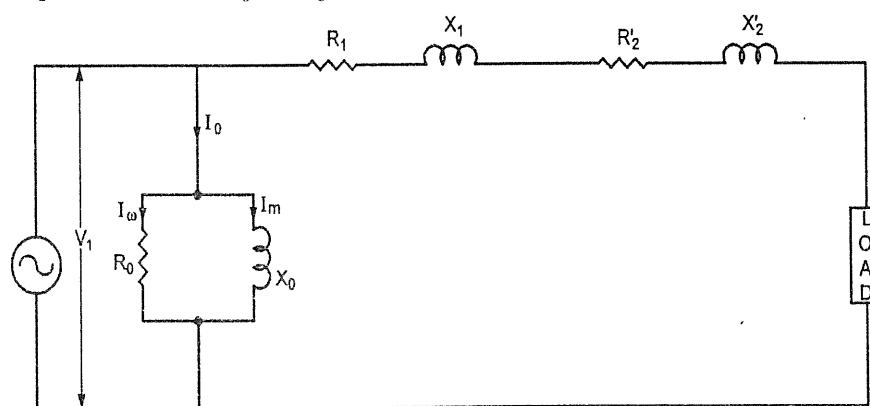

FIG. 3.31 : APPROXIMATE EQUIVALENT CIRCUIT OF THE TRANSFORMER
- Therefore the parallel branch $R_0 \parallel X_0$ is shifted to the input terminal side as shown in Fig. 3.31.
- Fig. 3.31 shows the approximate equivalent circuit of transformer